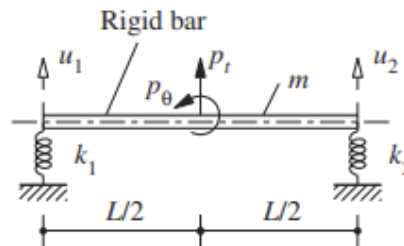
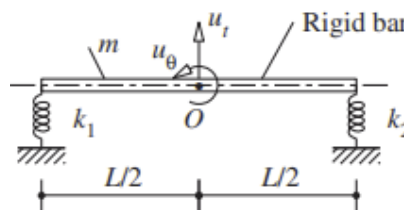

Fig 3.1
Fig 4.1
3. A uniform rigid bar of total mass m is supported on two springs k_1 and k_2 at the two ends and subjected to dynamic forces shown in Fig. 3.1. The bar is constrained so that it can move only vertically in the plane of the paper; with this constraint the system has two DOFs.
4. Formulate the equations of motion of the system of Fig. 3.1 with the two DOFs defined at the center of mass O of the rigid bar: translation u_t and rotation u_θ (Fig. 4.1)